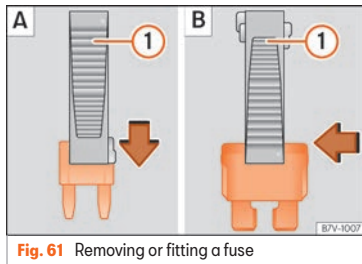

Fig. 61 Removing or fitting a fuse
- *Small fuses:* fit the pincer in from above »» **Fig. 61** **A**.
- *Large fuses:* move the pincer sideways over the fuse »» **Fig. 61** **B**.